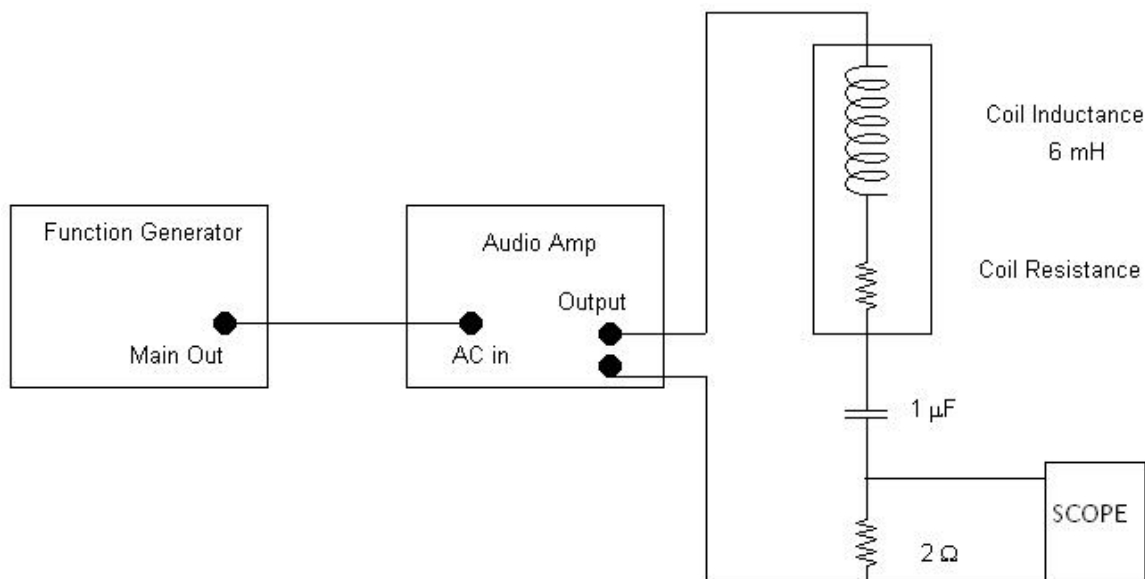

Figure 1: An RLC circuit. At resonance, the maximum amount of current is driven through the coil.
1. Construct the circuit shown in Figure 1. The  $2\text{-}\Omega$  resistor and  $1\text{-}\mu\text{F}$  capacitor are installed in a small black box with banana jacks on the front for input; the back is removed so you can see what is inside. It is driven by the audio amp, which in turn is driven by a function generator.